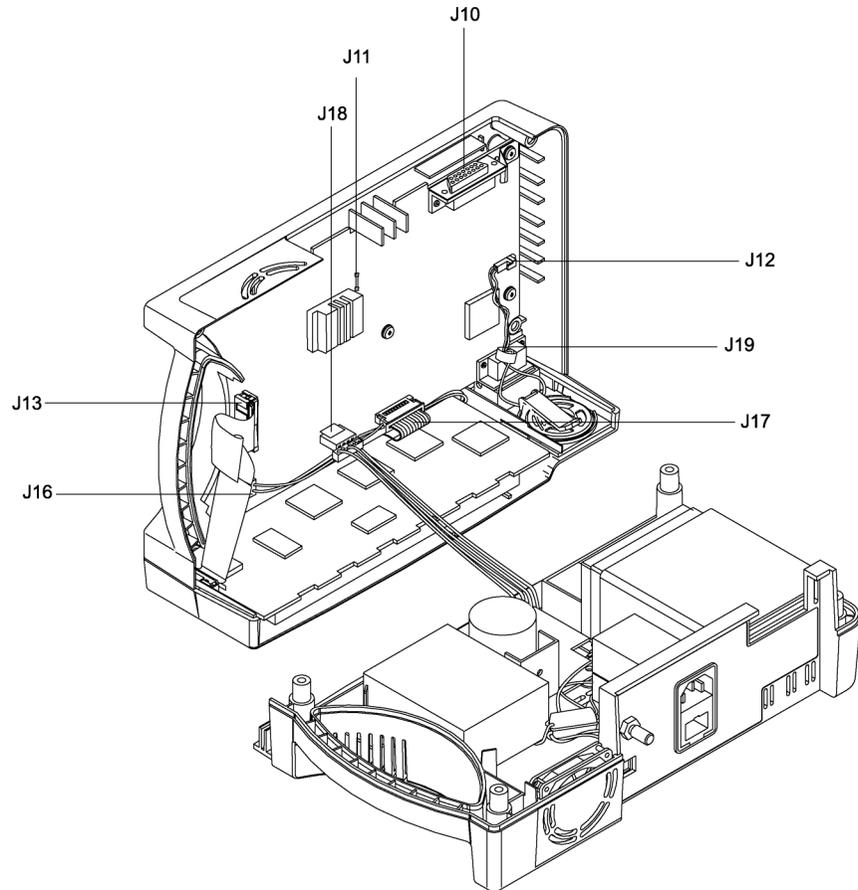

Figure 6: Separating Case Halves
4. Separate the monitor's top case from the bottom case of the monitor, being careful not to stress the wire harnesses between the cases. Place the two halves of the monitor on the table as shown in Figure 6.